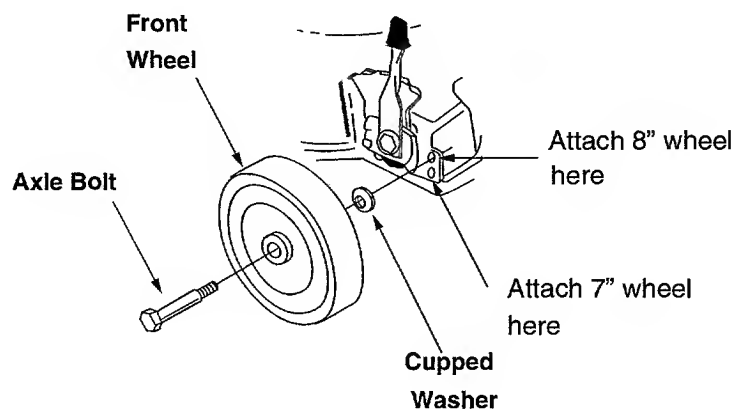

FIGURE 5
- Insert front axle bolt through front wheel. Place cupped washer on axle bolt (crowned side against the wheel). Insert axle bolt into pivot bar, using the hole shown in Figure 5. Tighten securely.